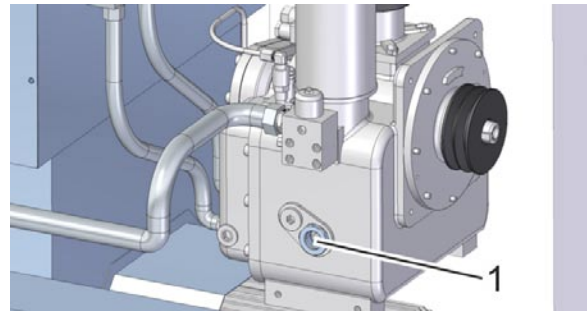

Fig. 28: Inspection glass
3. Check the inspection glass (Fig. 28/1) to make sure it is completely submerged in oil